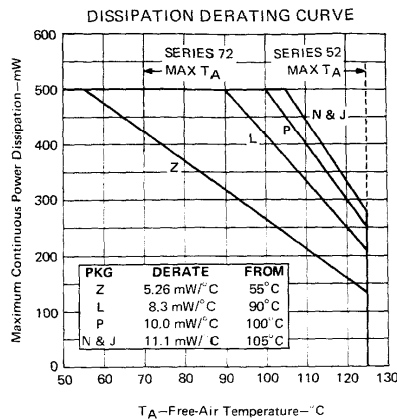

FIGURE 1
5. For operation above  $55^{\circ}\text{C}$  free-air temperature, refer to Dissipation Derating Curve, Figure 1.